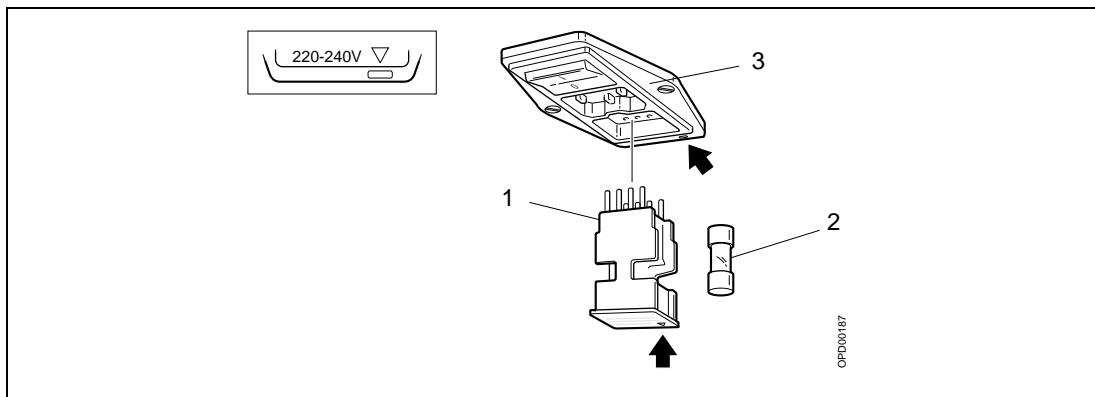

Fig. 7 Fuse in mains filter
The mains filter (3/Fig. 7) contains a fuse. To change fuse, proceed as follows:
1. Remove the fuse holder (1/Fig. 7) from the filter using a screwdriver and remove the old fuse (2/Fig. 7).
3. Insert the fuse holder into the filter according to Fig. 7.
The new fuse must be placed in the same position as the old one and the marks on the fuse holder and the mains filter must coincide, see Fig. 7.